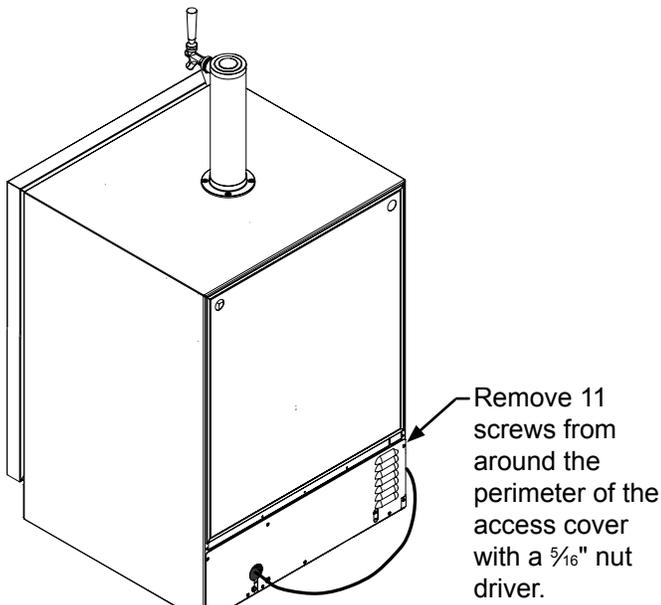

Figure 39
14. Remove the rear access cover, (see Figure 39), and use a brush and vacuum to clean dirt and debris from the machine compartment.